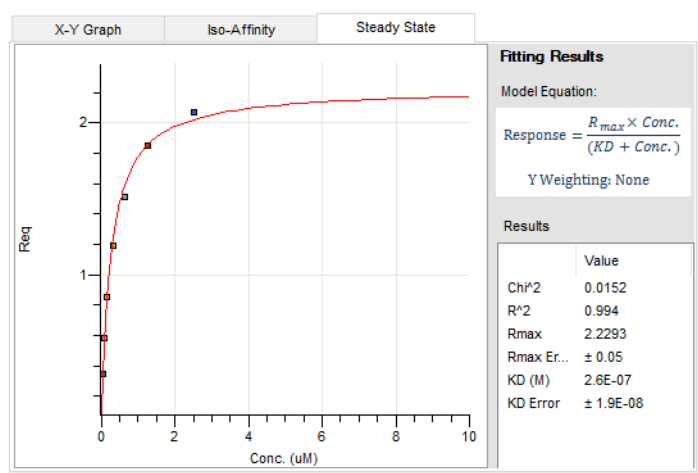

Figure 5-39: Stead State Analysis Using R Equilibrium.
3. Click **Calculate Response**. Calculated equilibrium information displays in the Steady State graph. In the example shown in Figure 5-39, the data was analyzed using the R equilibrium option.